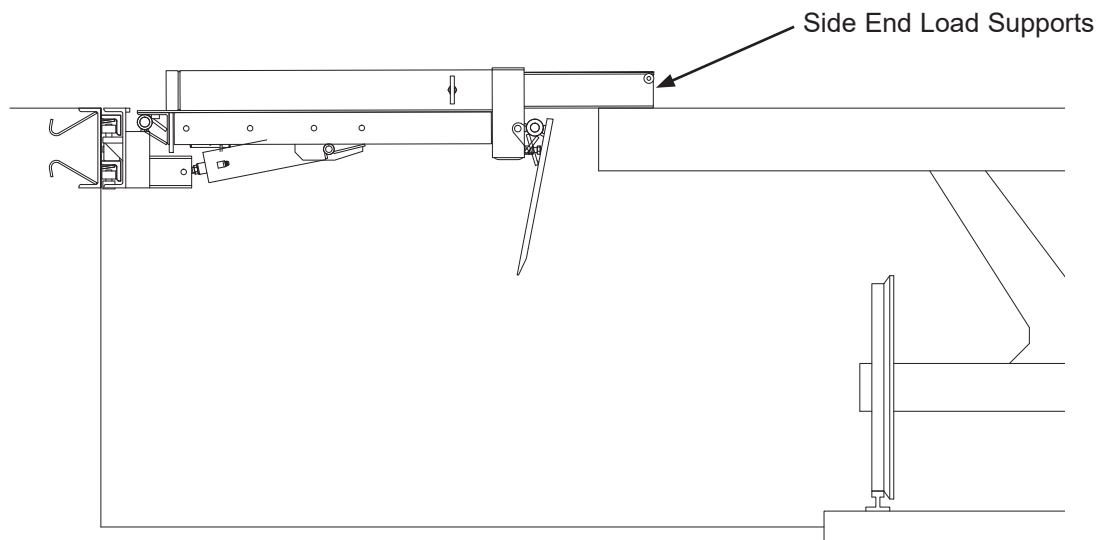

Figure 25
a. Press and hold the LOWER button (A) until unit is about 45 degrees forward, then press the LIP button (C) simultaneously and the lip will fold pendant. Once the lip is pendant, continue to press (B) until the Side End Load Supports make contact with transport vehicle.
b. Make sure that the Side End Load Supports are fully extended and supported on the transport vehicle with at least 4 in. (102 mm) contacting the transport vehicle bed. See Figure 25.
6. When loading or unloading is finished, raise the platform by Pressing and holding RAISE (B) button until unit is about 45 degrees forward, then press the LIP button (C) simultaneously and the lip will fold upright. Once the lip is upright, continue to press (B) until the leveler is fully raised.